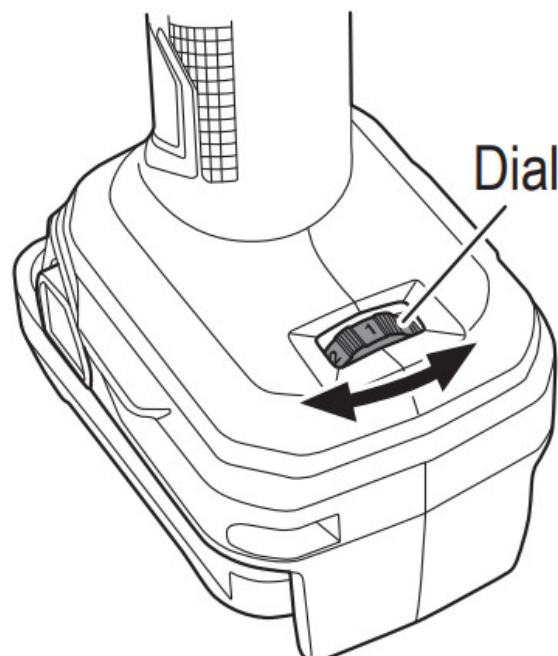

Fig. 13
2. Adjusting operating speed (Fig. 13)